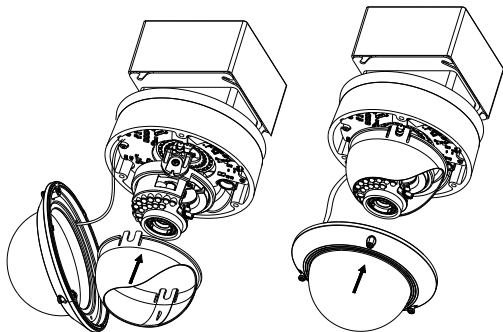

Figure 2-10 Secure Lower Dome
11. Tighten the screws to secure the lower dome with the camera as shown in Figure 2-10.